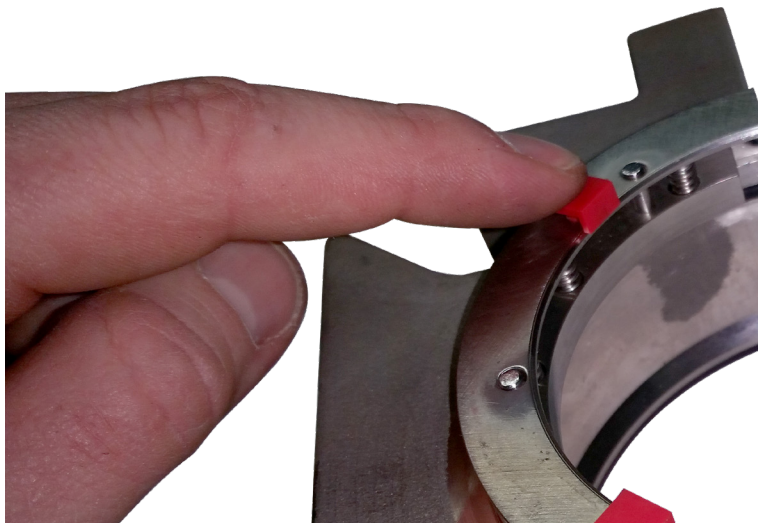

Figure 33
- 11.2 Position the centering devices at the gland locating holes and press their tabs into the locating holes. The locating holes are positioned 45 degrees from the split joints and are even with the bolt slots. See Figure 33.